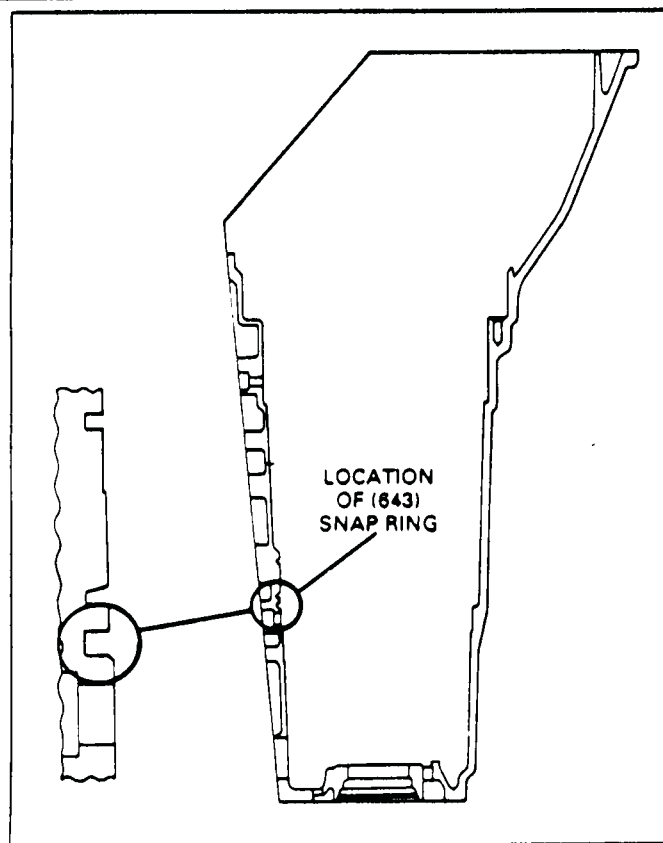

Figure 76
1. Install thin spacer ring into the groove in case, that is shown in Figure 76. (Third snap ring groove down). Install so the snap ring opening is at the nine o'clock position.